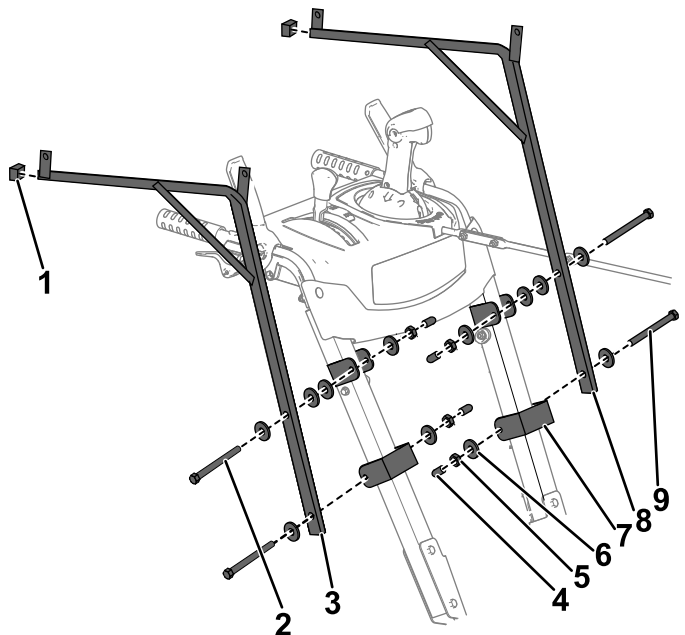

Figure 1
2. Install the right and left mounting brackets onto the frame as shown in Figure 1.